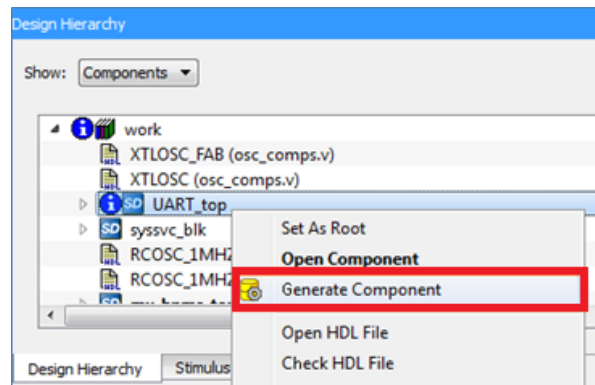

Figure 27 Generating the Component in the Libero SoC
39. Select **UART_top** in the Design Hierarchy tab. Right-click and select **Generate Component** to generate the UART_top block, as shown in Figure 27.